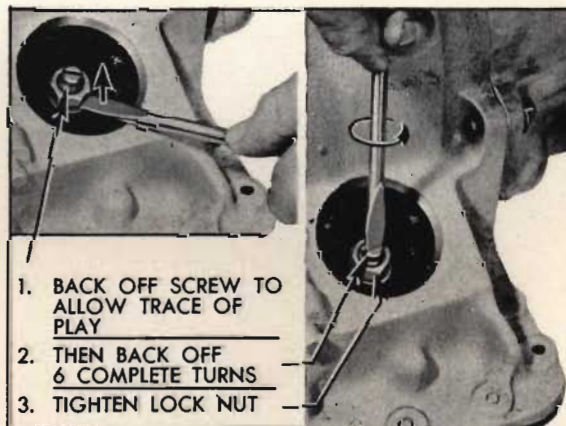

Fig. 8. Band adjustment
- Back off on the adjusting screw until a very small amount of play can be felt when prying up on the adjusting screw as shown in Fig. 8.